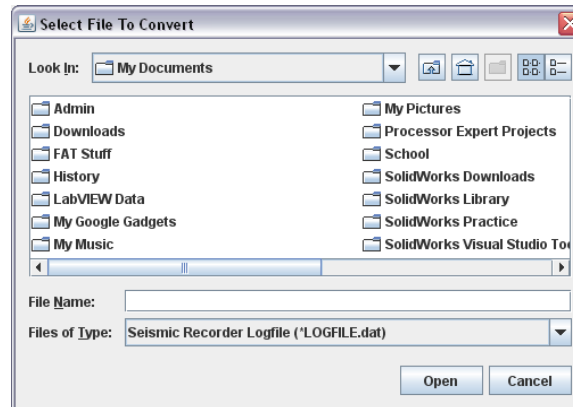

Figure 7.14 - File Chooser Window
- Click the “Select File to Convert Button”. This will result in a file chooser dialogue opening (see Figure 7.14 - File Chooser Window).